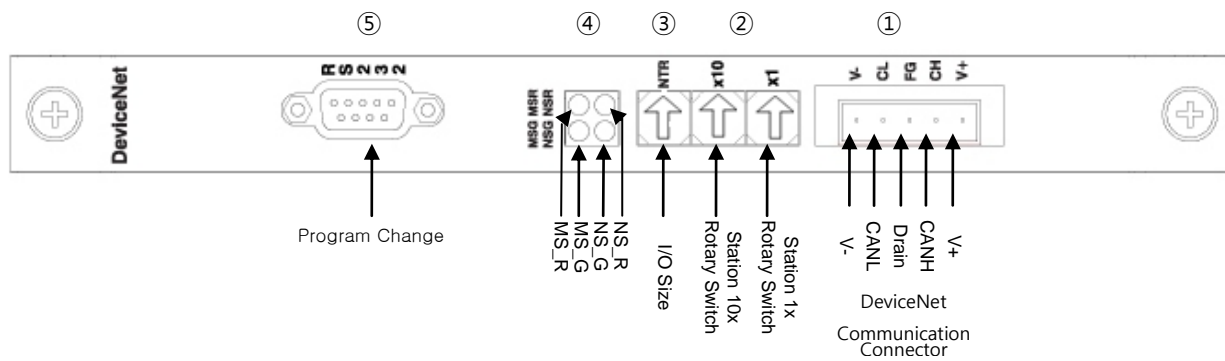

Fig. 3.1 DeviceNet Board Block-diagram
Use the Station 10x Rotary Switch and Station 1x Rotary Switch in Fig. 3.1 ② and change into Station Number set in Master to have communication with DeviceNet Master. Rotary Switch makes use of a decimal number so you can set a tenth place with 10x Rotary Switch and the first place with 1x Rotary Switch.